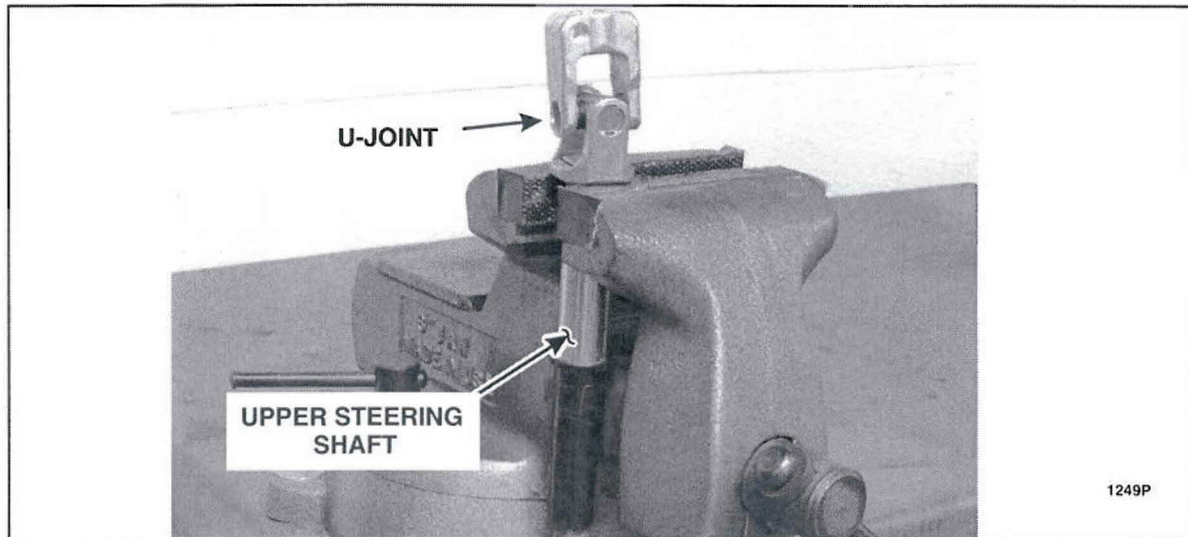

FIGURE 5
6. Loosely position the upper steering shaft into a vise, with the U-joint facing upwards and resting on top of the vise. See Figure 5.